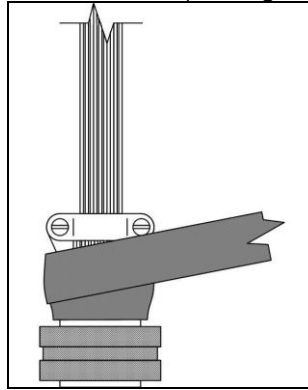

Figure 1
- 3.4.2** Begin wrapping the StretchSeal™ Tape around the connector to be protected, behind the coupling ring (nut). Stretch the tape 25 to 50% to ensure good compression around the connector body and rear accessories. (see figure 1)